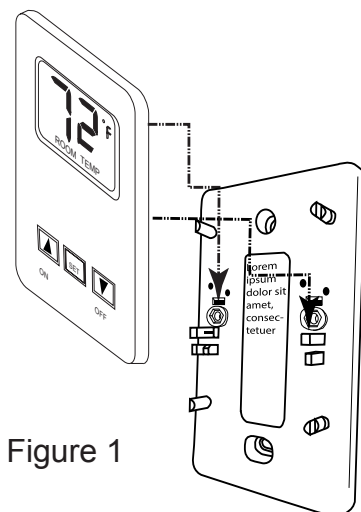

Figure 1
1. Remove face from backing plate this is done by sliding the face up about 1/2" then pull the face off the base plate. As shown in Figure 1
2. Locate the (2) holders for the 3V button cell batteries.
1. Remove face from backing plate as shown in Figure 1 then locate the TS-R-AF1 to where the (2) thermostat wires from the appliance can be pulled through the hole on the backing plate and connect them to the (2) terminal screws.
2. After locating the (2) two mounting holes and mark the holes on the wall.
3. Use the (2) two dry wall anchors and screws (that are supplied) to mount the base plate to the wall as shown.
6. Reinstall the face to the backing plate this is done by sliding the face in and down about 1/2" then check that the (2) male terminal connectors on the face are engaged in the female terminal connectors on the backing plate. As shown in Figure 1.